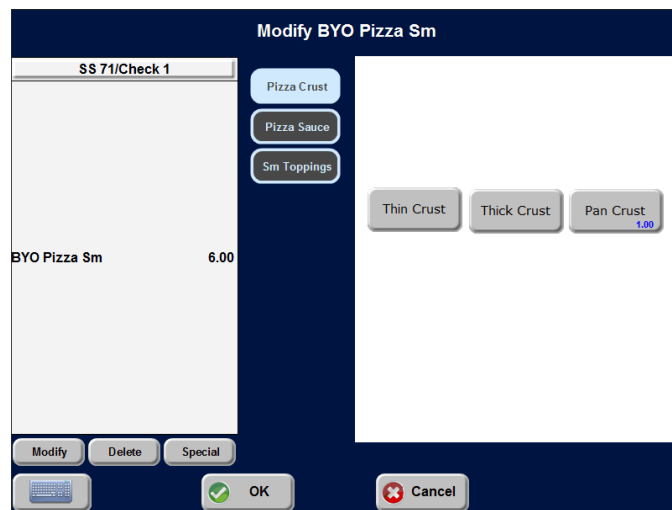

Figure 44 Crust Modifier Screen for Advanced Pizza
4. Touch a **size** and then the **pizza item**. The item appears in the on-screen guest check with a \$12.00 price. The Modifier screen for your choice of crust appears with a custom modifier panel (Figure 44).